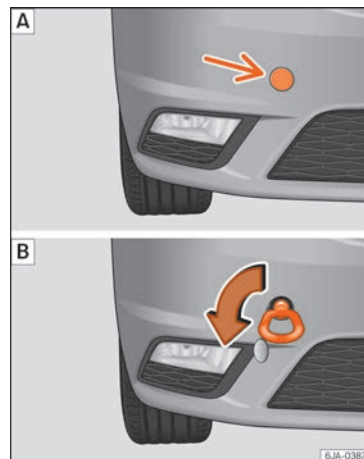

Fig. 66 Right side of the front bumper: towline anchorage screwed in.
- Screw the front towline anchorage into the screw connection » **Fig. 66** and tighten it with the wheel brace.